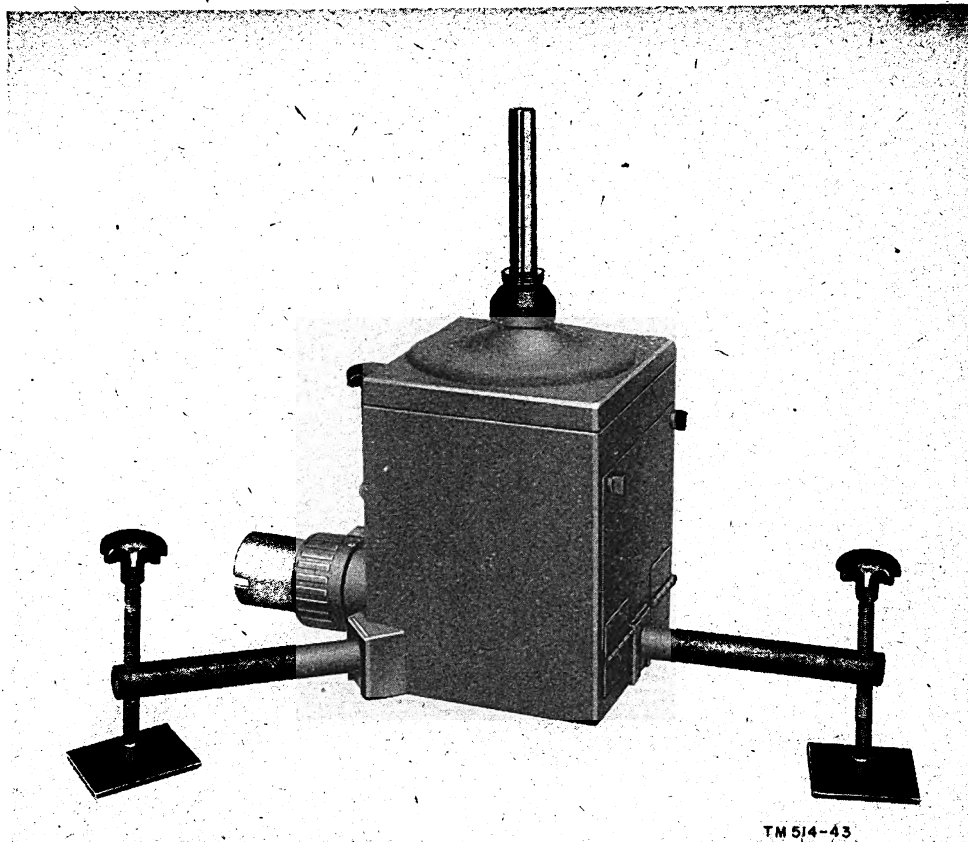

Figure 7. Antenna Support AB-64/CRD-2, mounted on adjustable legs.
b. Antenna Support AB-64/CRD-2 (fig. 7) is a weatherproofed metal box which contains Antenna Coupling Unit CU-34/CRD-2. A threaded steel stem, which is mounted on the insulated top of the box, provides a mounting for the monopole. The support also has a male